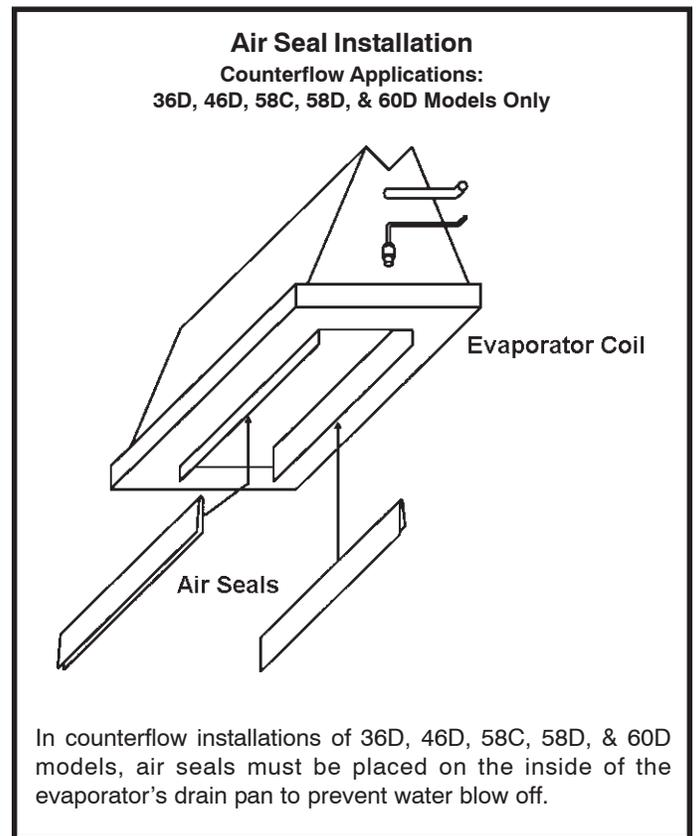

Figure 3
Air seals must be placed on the inside of the evaporator's drain pan to prevent water blow off in several counterflow model installations (see Figure 3). A kit, ACFAIRSEAL-1, is available from the local distributor. The kit contains four air seals, enough to complete two (2) counterflow installations.